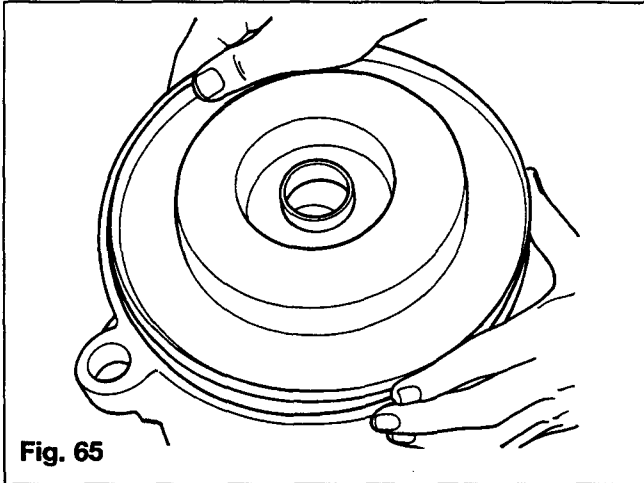

Fig. 65
7. Insert the piston into the housing, steel side first and push it down until it contacts thrust bearing (Figure 65).